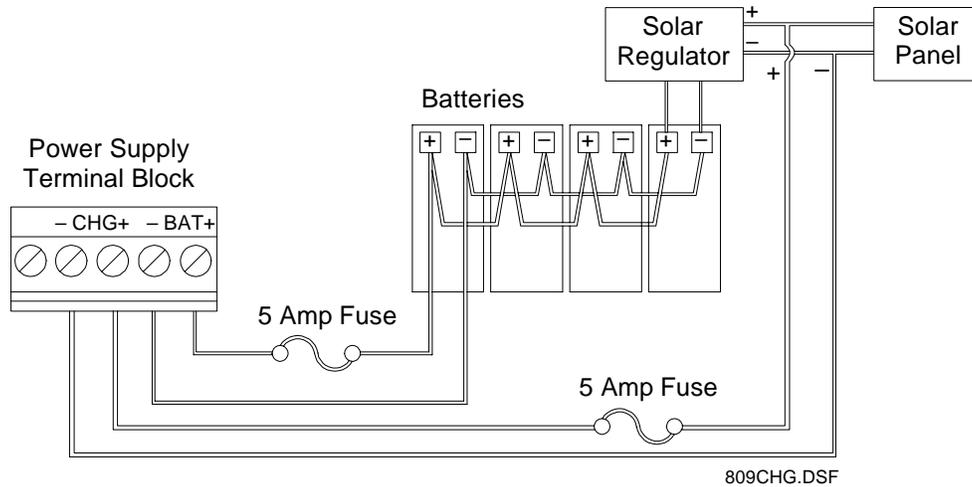

Figure 3-6. 12 Volt dc Power Supply and CHG+ and CHG- Wiring
9. If you are monitoring an external charge voltage (12 Volts dc Power Input Module only), wire the CHG+ and CHG– terminal block connector. Refer to Figure 3-6.
Connect batteries in parallel to achieve the required capacity (refer to Figure 3-6). The amount of battery capacity required for a particular installation depends upon the power requirements of the equipment and days of reserve (autonomy) desired. Calculate battery requirements based on power consumption of the ROC827 and all devices powered by the batteries.